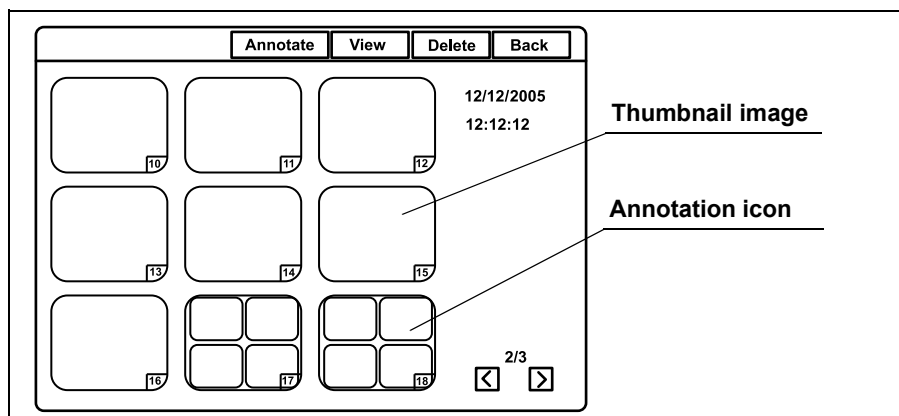

Figure 5.62
- Click “Load” or press the “Enter” key. The message “Please wait” is displayed on the monitor, then the thumbnail screen appears (see Figure 5.62). The thumbnail-sized images for the annotation image is not an image but an icon.